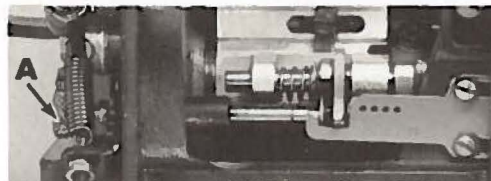

Fig. 20
The looper frame throw-out (Fig. 20) is a convenience used to make threading of the loopers easier. It can be used only when the needles are at the top of their stroke. By pulling looper throw-out actuating pin (A), the looper holder frame is released tilting the loopers forward.